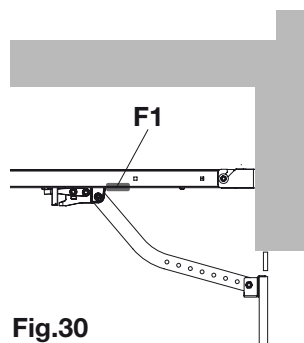

Fig.30
- Close the leaf completely and then fix one of the two mechanical stops resting on the drive carriage (figure 30 ref. F1).